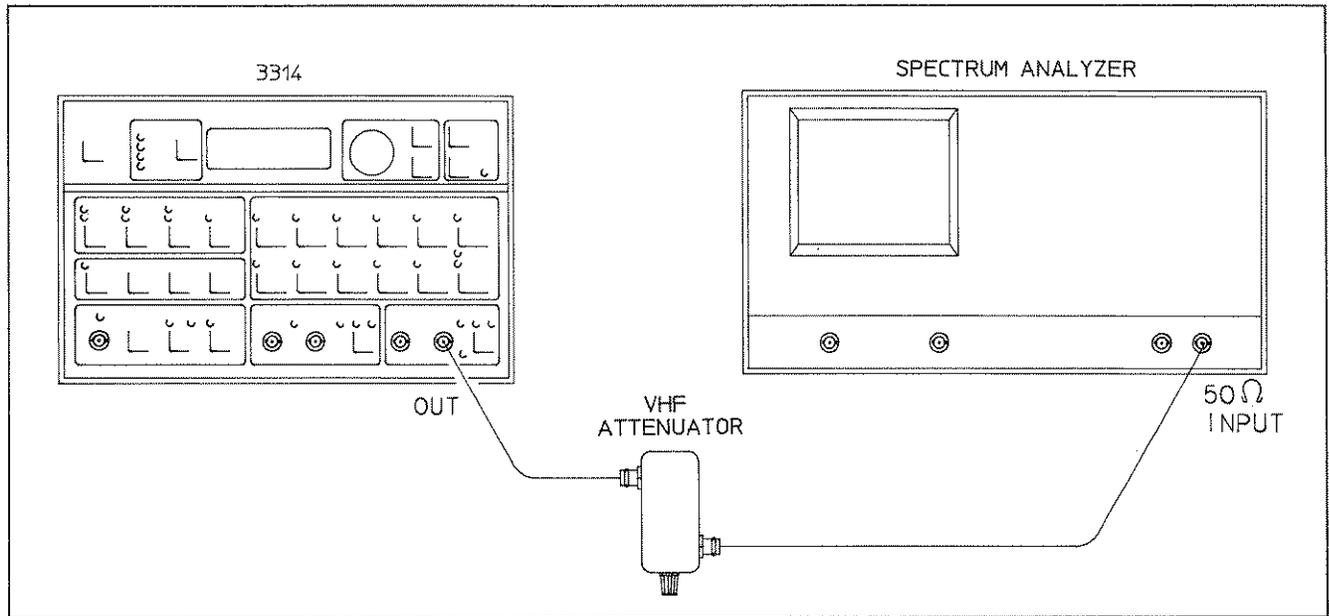

Figure 4-17. Vernier Attenuator Flatness
D. Connect the 3314A to the Attenuator and Spectrum Analyzer as shown in Figure 4-17.